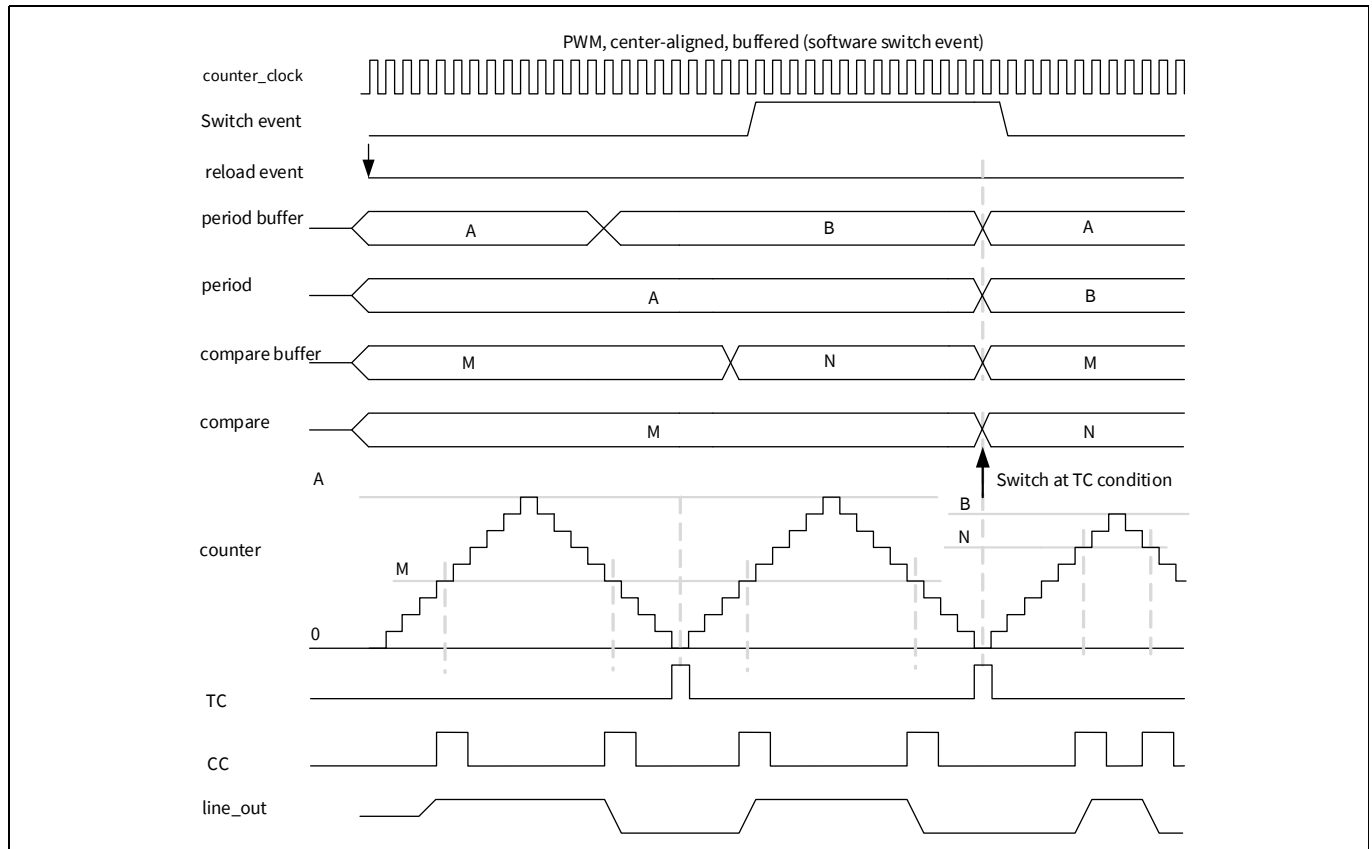

Figure 19-13. Timing diagram for center aligned PWM (software switch event)
- Updates to the buffer period register and buffer compare register should be completed before the next TC with an active switch event; otherwise, switching does not reflect the register update, as shown in Figure 19-13.
Figure 19-13.
Figure 19-13 illustrates center-aligned PWM with software generated switch events: